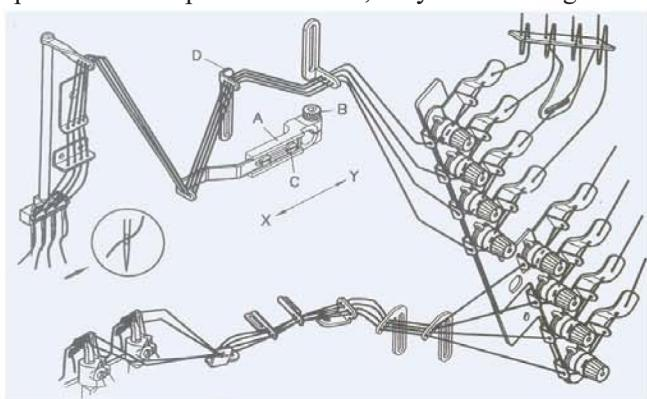

图9(Fig. 9)
1. Refer to the sewing type you need for correct threading .Any incorrect threading may cause thread brake 、uneven stitches or skip stitches. (Fig.9)
1. Thread temsion ,should be adjusted in regarding to kinds of threads fabrics, thickness of fabrics ,and stitch length etc. (Fig.9)